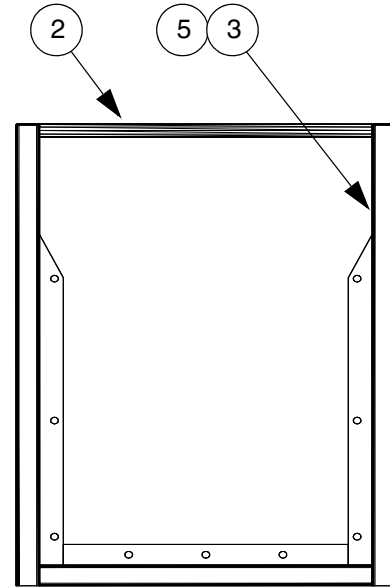
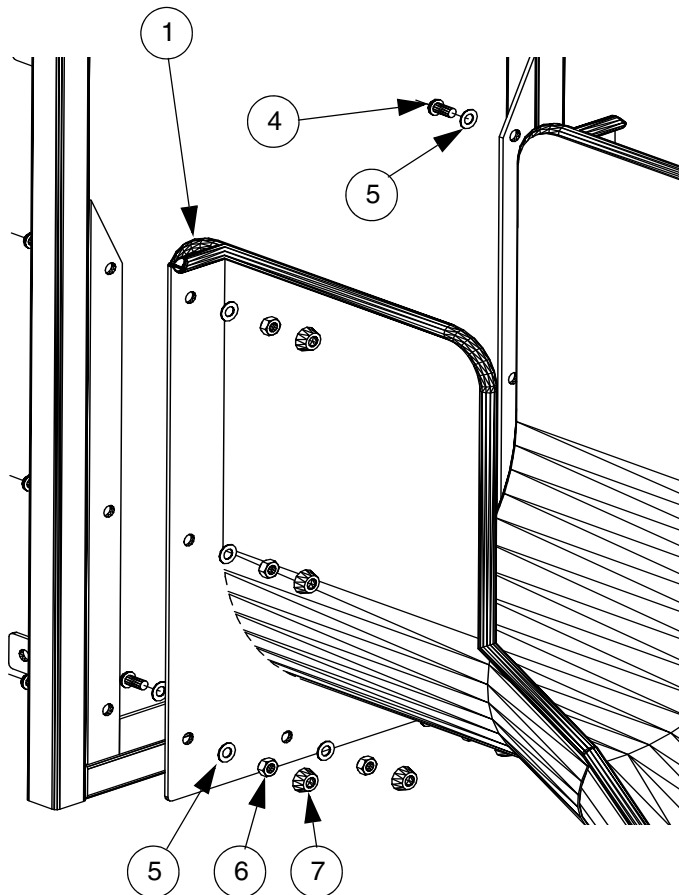
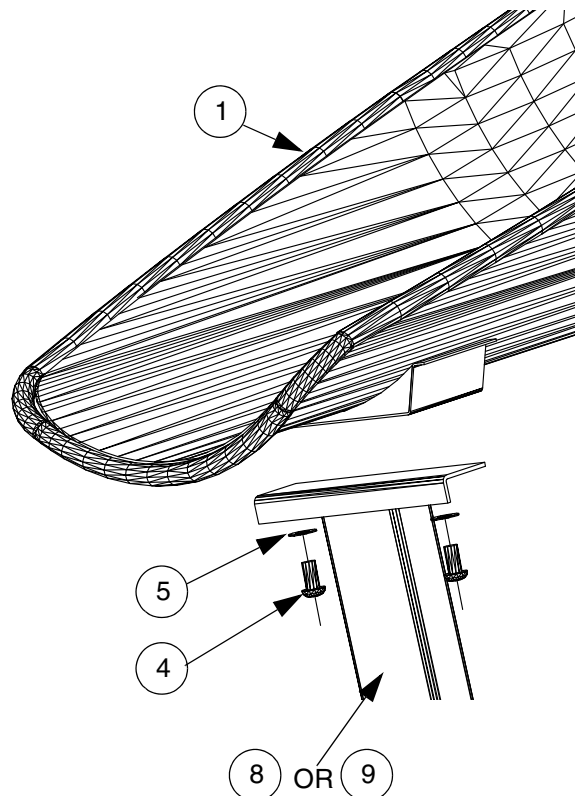

FIG.1
FIG.2
FIG.3
- i) Attach item 2 onto Tower using 4 off M10 x 30 Resistorx bolts item 3 and washers item 6.
- ii) Offer item 1 to item 2. Ensuring the top of item 1 rests on the cross member of item 2. The walls of item 1 must be positioned outside the gussets on item 2. (Fig 1).
- iii) Mark out foundations for items 9/10. Remove item 1 then excavate holes.
- iv) Bolt item 9, and item 10, to item 1. (Fig 2).
- v) Repeat note (i). Secure item 1 using items 7 & 8. Ensure the **bolt** head is on the inside of the slide.
- vi) Set position and pack up bases. Check item 1 ground clearance.
- i) Offer item 1 to item 2. (FIG.2).
- ii) Mark out foundations for items 8/9. Remove item 1 then excavate holes.
- iii) Bolt items 8, and 9, to item1. (FIG.3 & 4).
- iv) Repeat note (i). Secure item 1 using items 4,5,6 & 7. Ensure the **head** of the Resistorx fitting is on the inside of the platform.